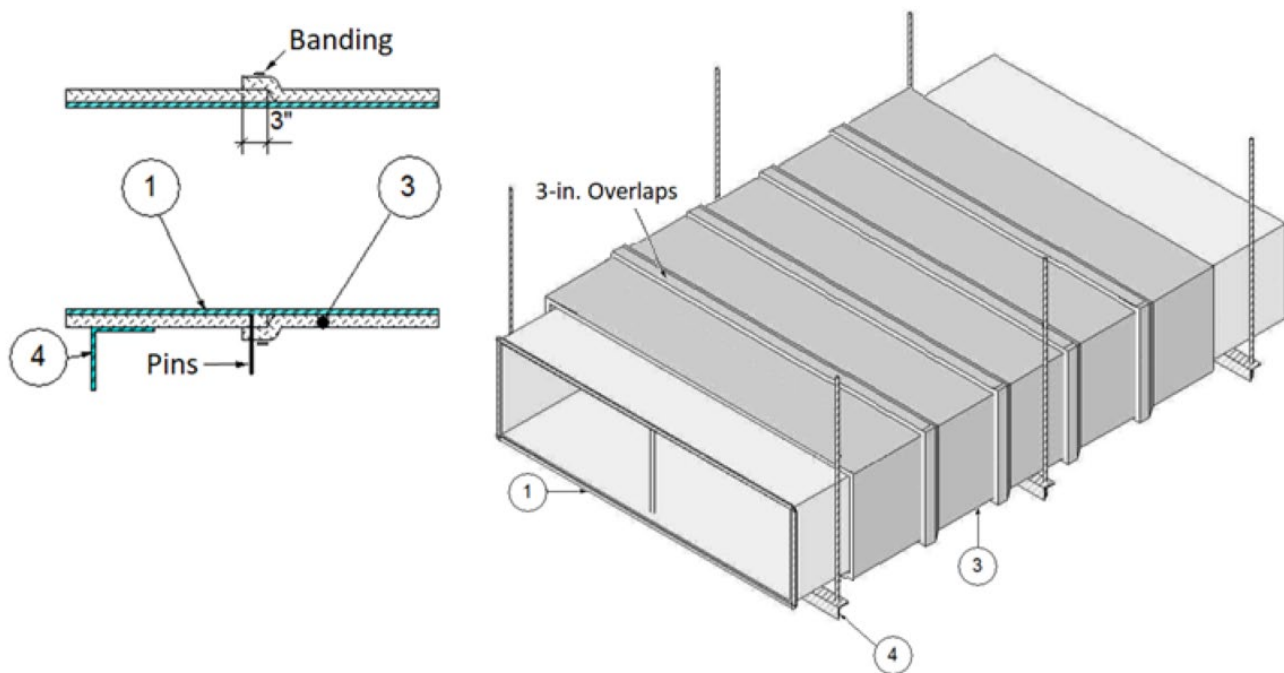

Figure 1. Horizontal Duct A
- A. **PINS:** Refer to Figure 1. Install pins on bottom side only for horizontal ducts or one of the wider sides only for vertical ducts. For round ducts, this represents the bottom 120° for horizontal ducts or any 120° section for vertical ducts. Use minimum 12 GA steel impaling pins to secure the duct insulation (Item 3). Select pin length as required to penetrate all layers of duct insulation (Item 3) and penetration firestop insulation collars (Item 7D) by a minimum of 1 in. without compression. Weld the pins to the ventilation air duct (Item 1). Space pins longitudinally at maximum 21 in. oc. and centered on duct insulation (Item 3) overlaps and 1-1/2-in. from collar edges. Locate pins transversely maximum 12 in. oc with a row of pins centered on each duct insulation (Item 3) overlap. Secure insulation on pins with 2-1/2- x 2-1/2-in. x 0.016-in, galvanized steel clip washers. Pins not required for duct sizes less than or equal to 24-in. x 24-in., or less than or equal to 24-in. diameter.
- B. **BANDING:** Refer to Figure 1. Use minimum 1/2-in. wide by 0.015-in. thick carbon steel or stainless-steel banding and minimum 1-in. long crimp clips of same material. Locate and install the bands at the center of each duct insulation (Item 3) transverse overlap. Tighten the bands securely at all locations.